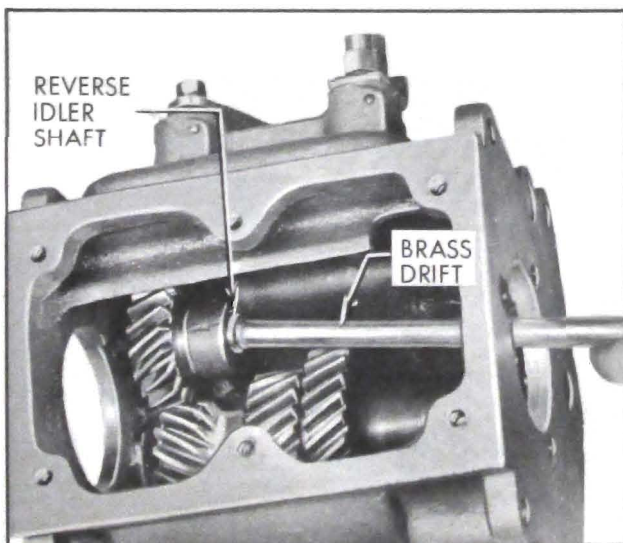

Figure 4-18—Removing Reverse Idler Shaft
11. Remove first-reverse shift shoe from shift shaft. Drive reverse idler shaft out of rear of case using a brass drift. See Figure 4-18. Remove reverse idler gear.